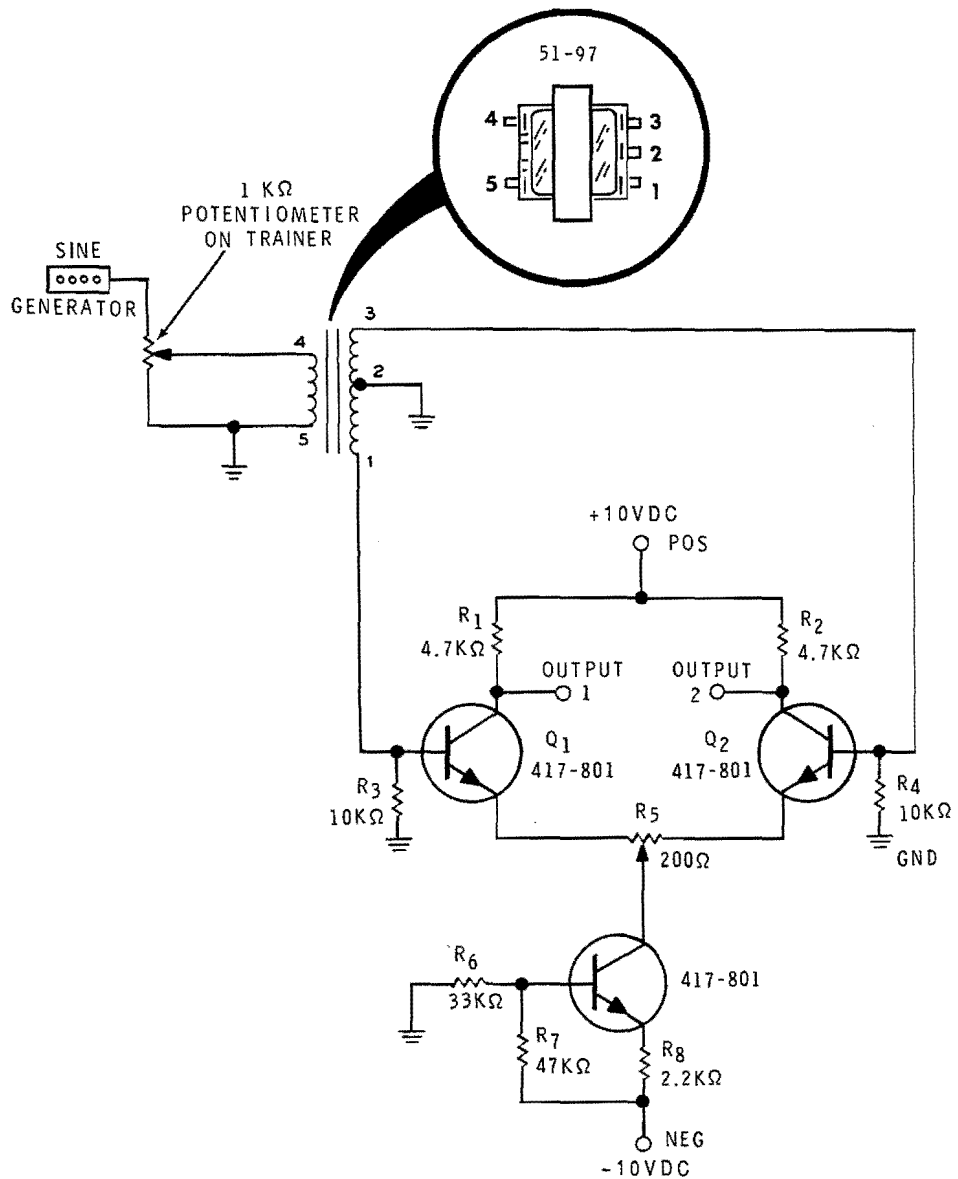

Figure 3-19
25. Construct the circuit shown in Figure 3-19. Turn on the Trainer.